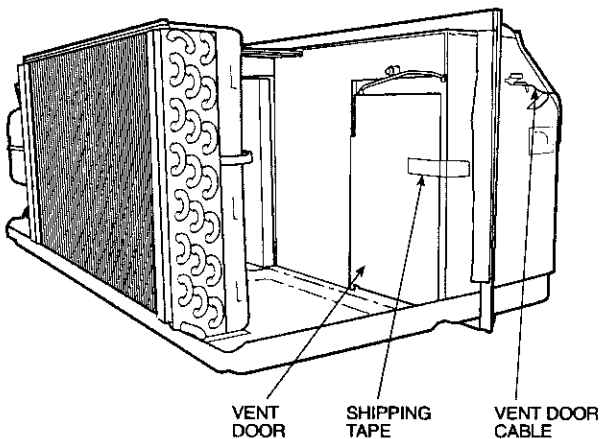

FIGURE 11 — LOCATION OF SHIPPING TAPE ON VENT DOOR
■ **INSTALL CHASSIS IN SLEEVE (See Figures 11 to 13)**
3. Remove shipping tape from vent door. See Figure 11.